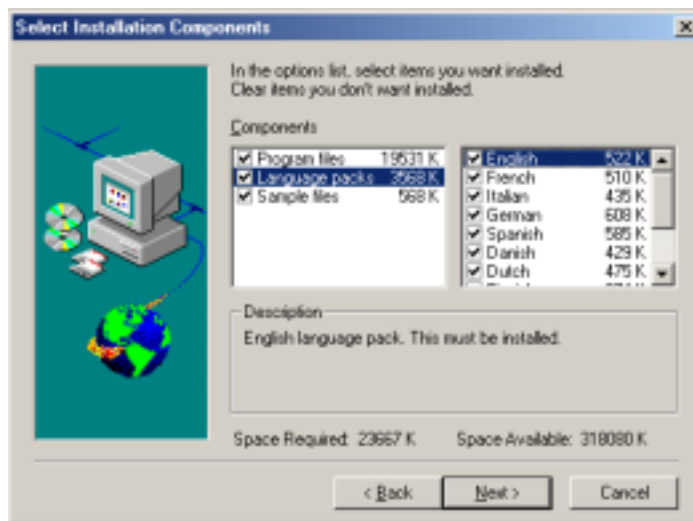

Figure 7: selecting languages to be recognised
7. Select the 'Language packs' option and in the right-hand window indicate the language TextBridge must recognise and convert to processable text. See figure 7.